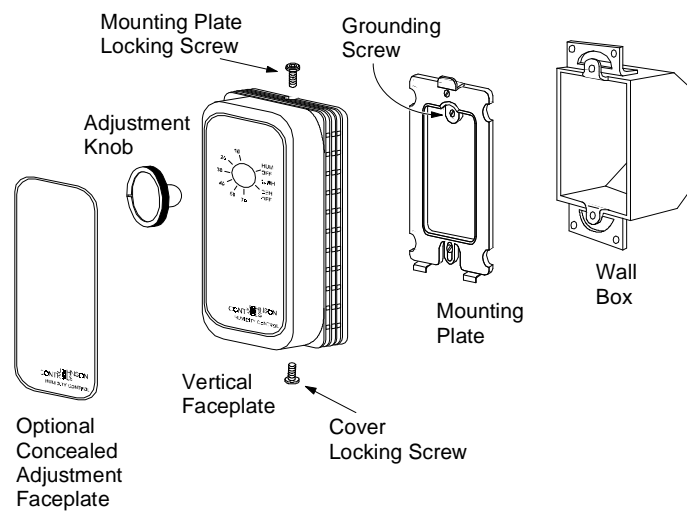

Figure 3: W43A Humidistat
3. Remove the humidistat mounting plate by loosening the mounting plate locking screw (see Figure 3), and lifting and removing the plate from the base.